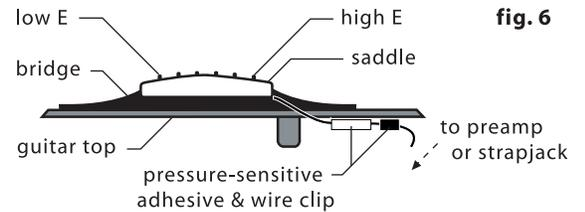

fig. 6
1. For optimum performance of this pickup, the bridge slot must have a clean, flat surface free of any debris or over-spray from the finish. The slot must be a minimum of .125" (1/8") deep, but we suggest a depth of .187" (3/16") to avoid excessive saddle tilt (see figure 6).